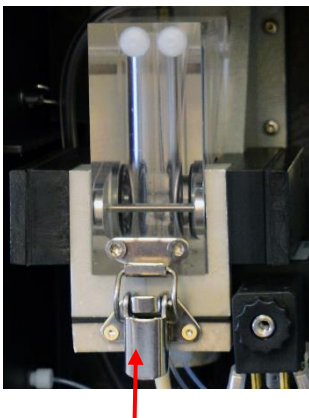

Figure 31
4. Release the spring lock (see figure 31), tilt the measuring chamber upwards and take it out.